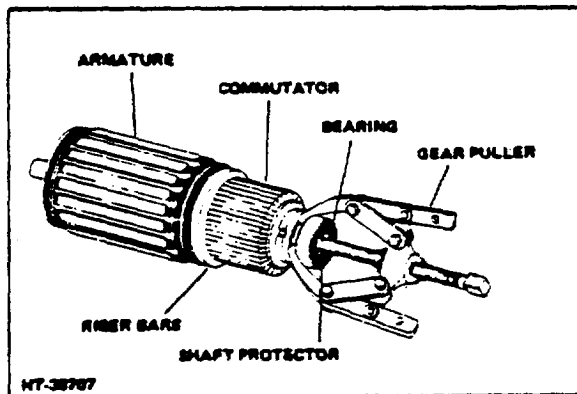

Figure 4-3. Bearing Removal
- When bearings are worn, or damaged, remove the bearings from armature shaft with a suitable gear puller (Fig 4-3).